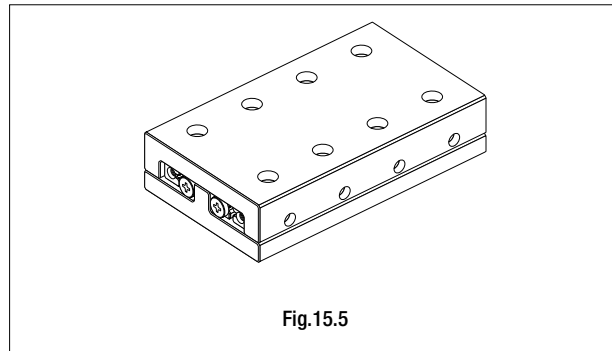

Fig.15.5
- Slide the table to the center of the stroke and tighten the end screws. (See Fig.15.5)